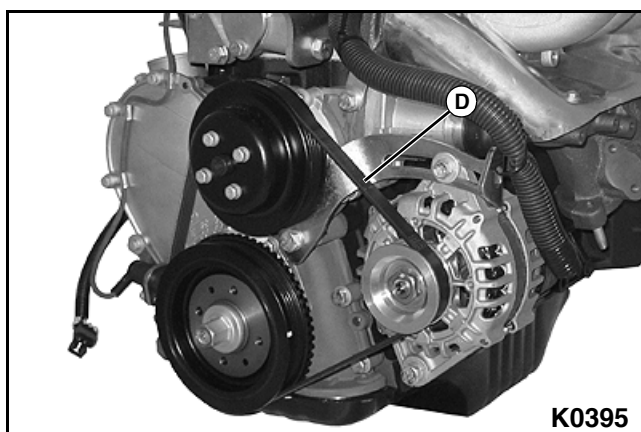

Figure 5-20
4. Set drive belt tension to specification. **See Figure 5-20.**
- Apply specified pressure to the drive belt at its midpoint. At the same time, measure the amount of deflection of the drive belt at its midpoint (D). Deflection should be within specification.